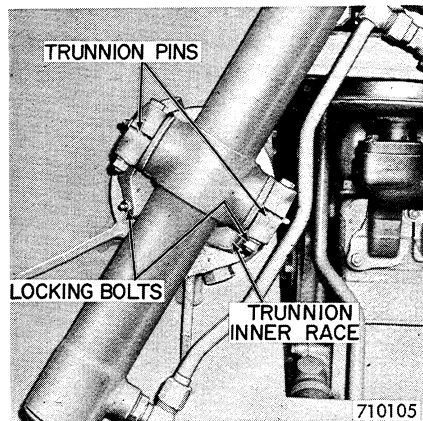

Figure 107
The lift cylinder trunnions are equipped with off-center cylinder pivots. Rotating the trunnions 180 degrees in their races provides the lift cylinders with two positions: (1) an upper position for the standard angle-tilt dozer blade, and (2) a lower position for dozer blades equipped with a forestry grill guard. See Figure 107.